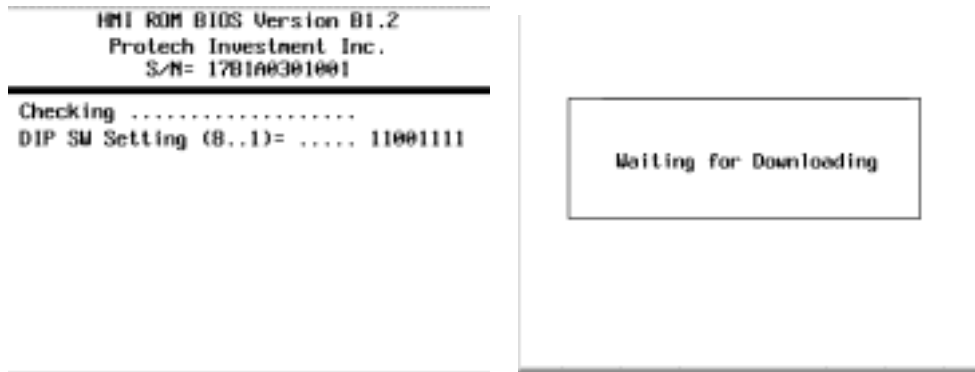

Fig.A-6 GD17 start-up screen for different BIOS's version.
**After GD17 power starting, it will check above hardware devices first : the result will be shown on the LCD display of the GD17 .(See Fig.A-6) If there is any checksum error, the GD17 will not run normally or successfully connect to PLC.